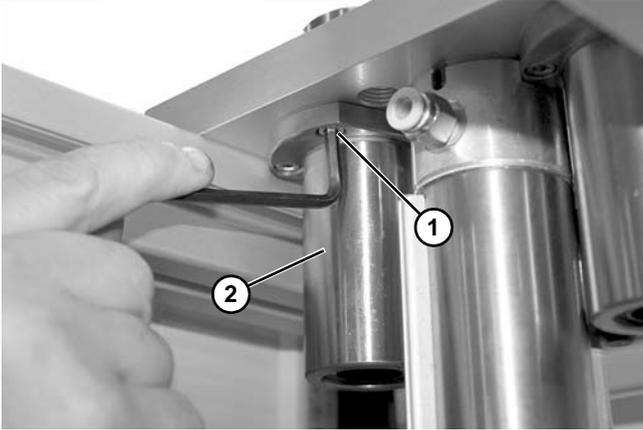

Figure 108
2. Remove socket head screws (Figure 108, item 1) and bearing (Figure 108, item 2). Repeat for other bearing.